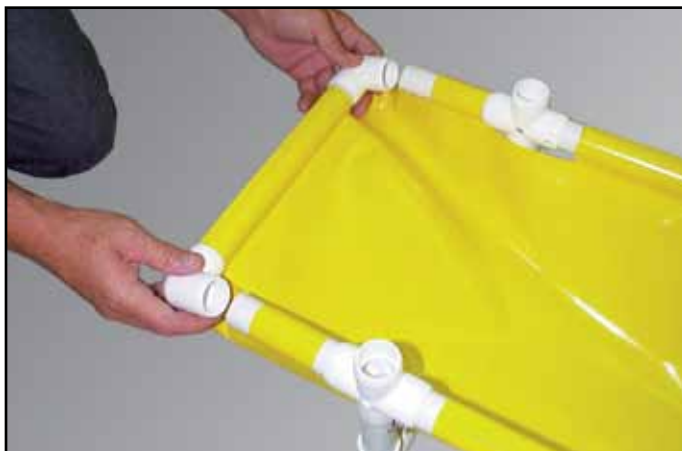

Figure 6
- c. Connect the 12" pipe with the two 5" pipes by placing elbow couplings (Part 108) on each end (Figure 6).